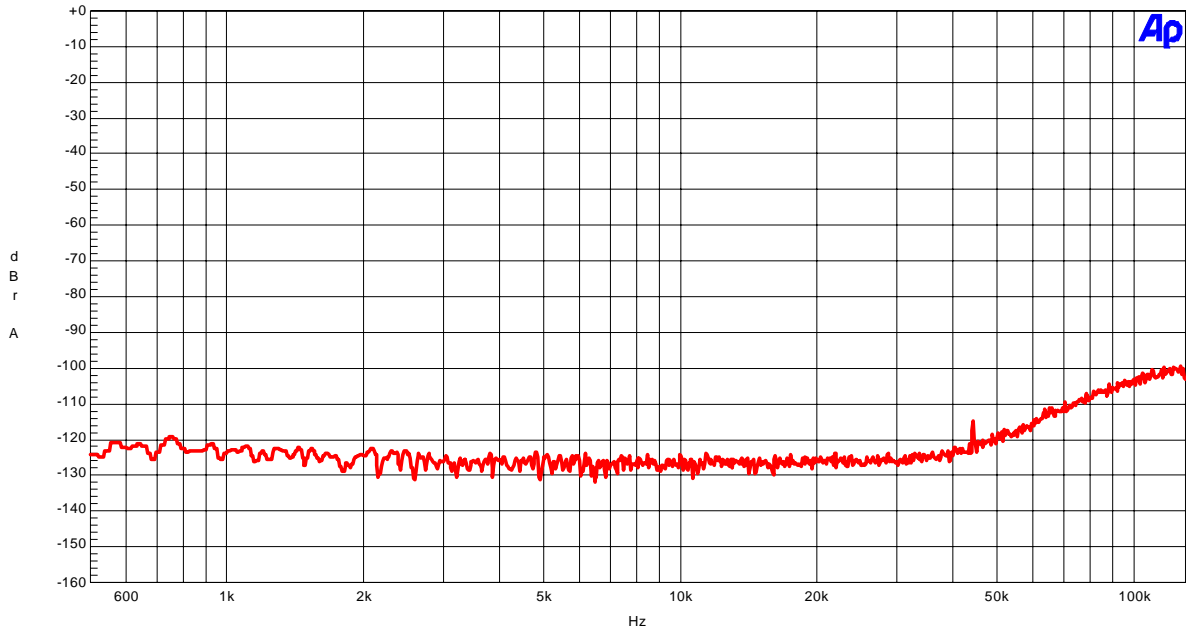

Figure 2-1-9. FFT (out-of-band noise)
- Figure 2-1-9. FFT (out-of-band noise, ~80kHz)